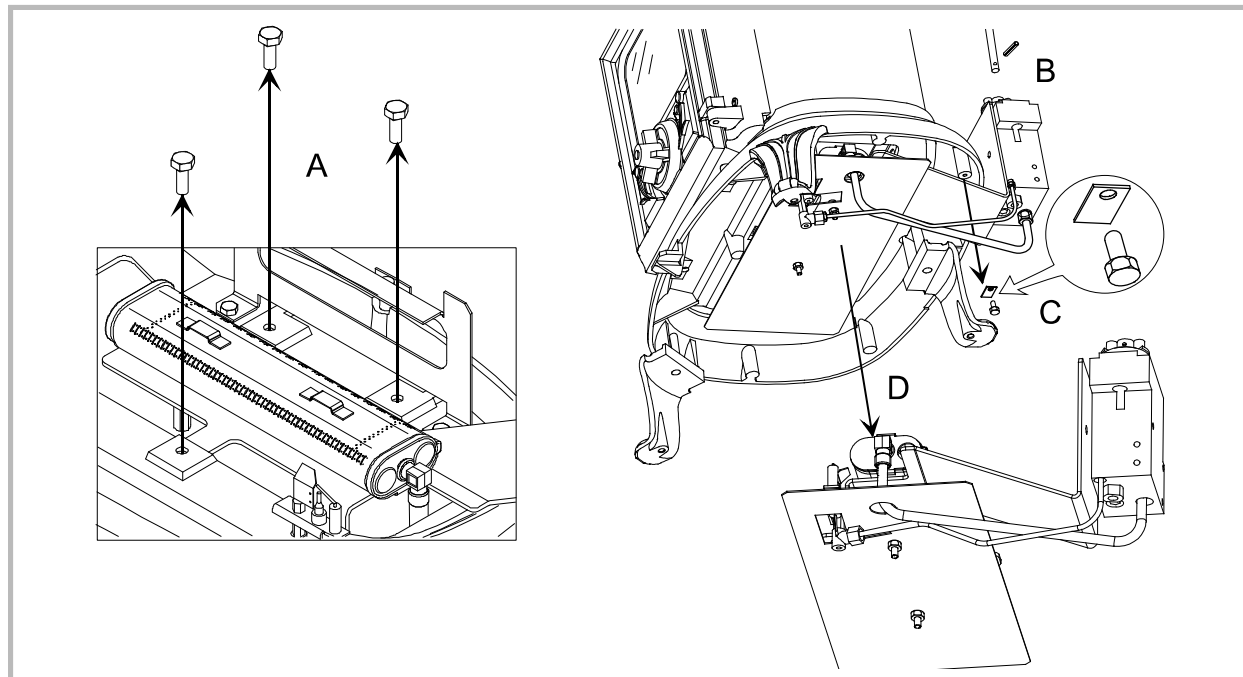

Figure 7 - Removing the burner
- Remove the 3 screws from the burner holder (rep. A, fig. 7).
- Remove the pin from the spindle (rep. B, fig. 7).
- Remove the retaining bracket (rep. C, fig. 7).
- Remove the burner (rep. D, fig. 7).